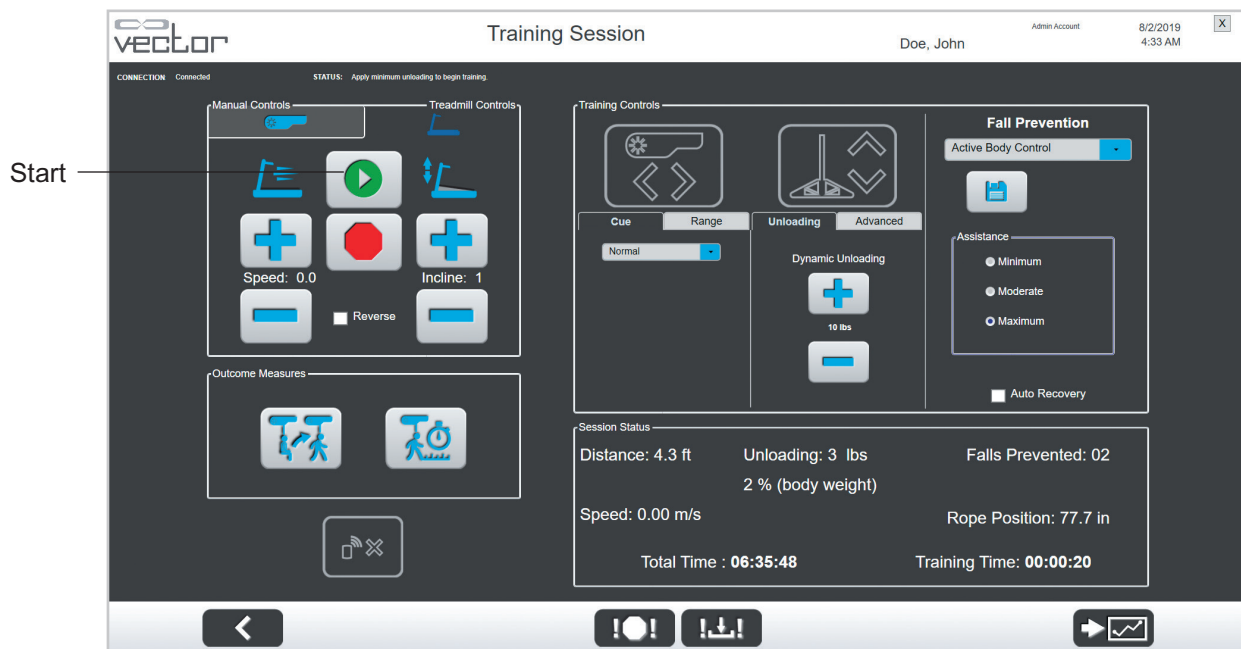

Figure 6-14: Training Session Screen with Treadmill Controls Enabled
After establishing connection with the treadmill, the Treadmill Controls Tab on the Vector software can be used to start, stop, and modify settings on the treadmill. Speed, incline, and belt direction can be adjusted from the PC or Remote Control. See Figure 6-14.
1. To initiate a treadmill training session, press the Start button. See Figure 6-14.